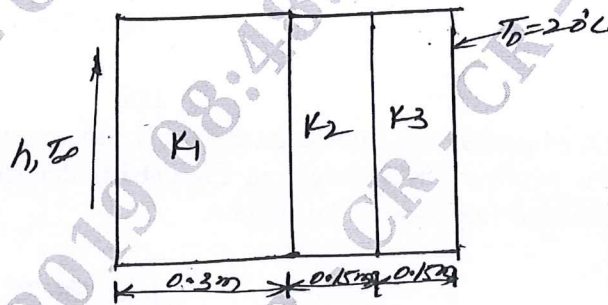

Fig.Q7(b)
b. A composite slab consists of three materials with thermal conductivities of 20 W/m °C, 30 W/m °C, 50 W/m °C and thickness 0.3m, 0.15m and 0.15m respectively as shown in Fig.Q7(b). The outer surface is at 20°C and the inner surface is exposed to the convective heat transfer coefficient of 25 W/m2 °C and a medium at 800°C. Determine the temperature distribution within the wall. (12 Marks)